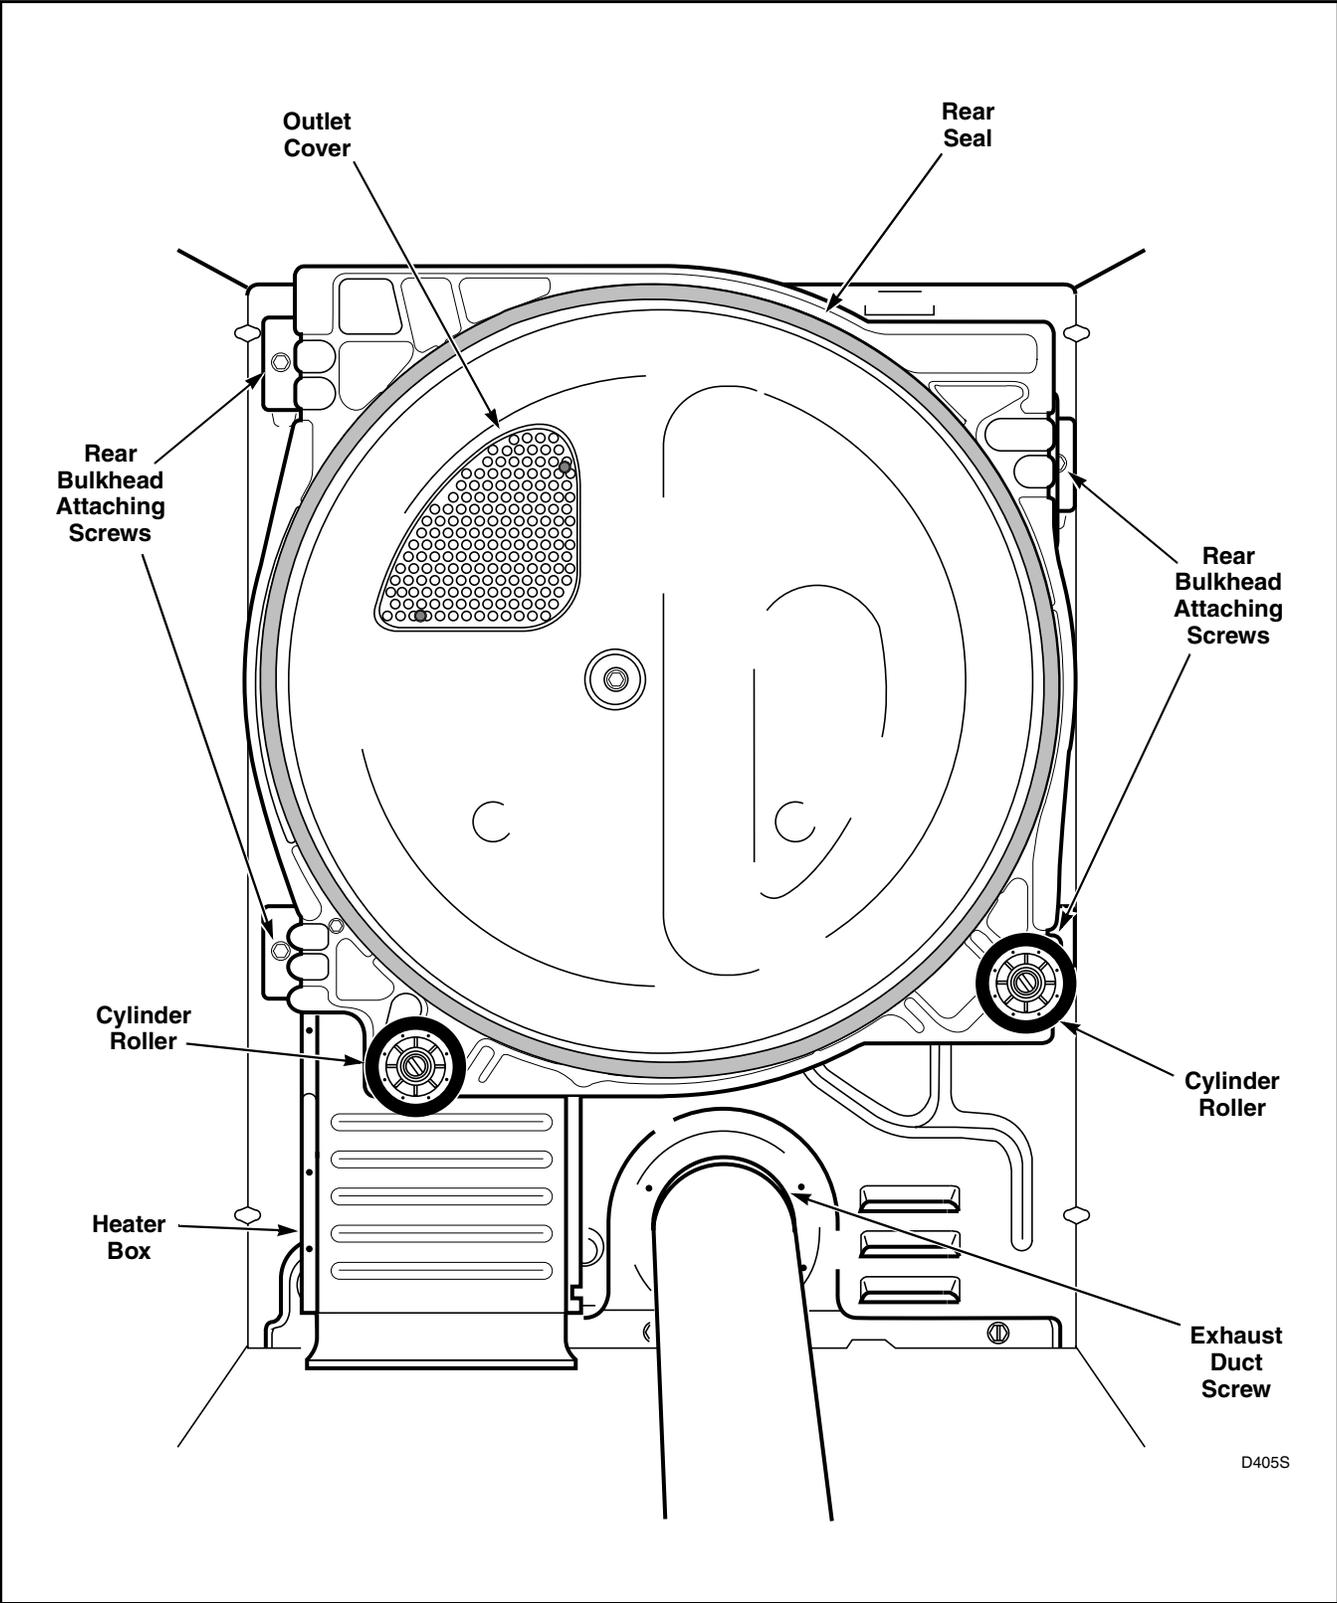

Figure 35
- j. Pull rear cylinder seal from flanged edge of bulkhead. Refer to *Figure 35*.
- a. Open door and remove two screws holding outlet cover to rear bulkhead. Refer to *Figure 35*.
- k. While supporting bulkhead, remove the four screws holding rear bulkhead to dryer cabinet, then lift complete assembly out of dryer. Refer to *Figure 35*.